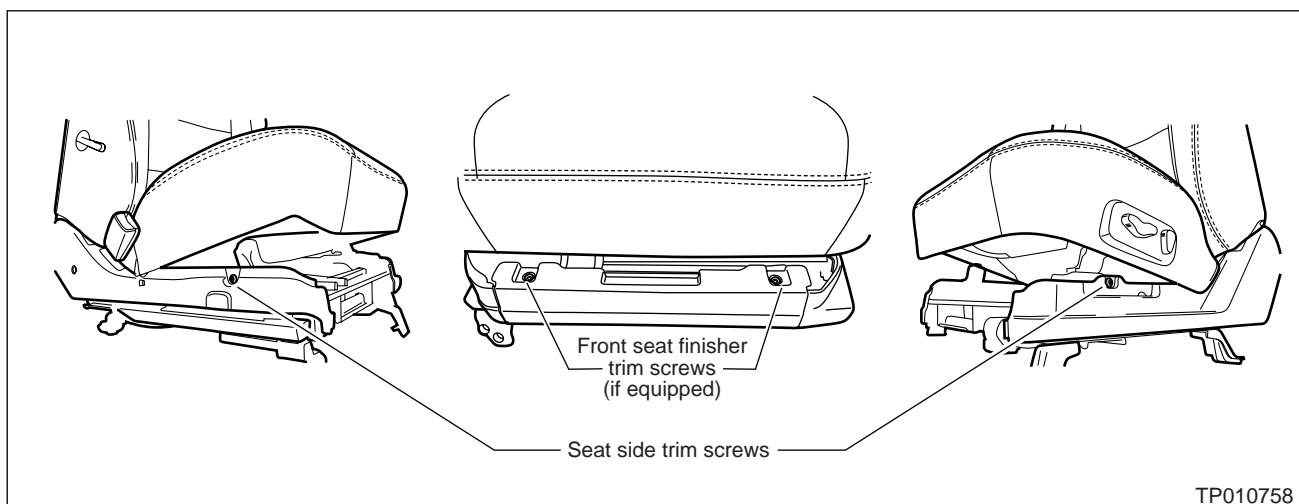

Figure 5
13. Remove the top screw only from the RH & LH side finishers (see figure 5).
14. If equipped, remove both screws and finisher from the front edge of the seat (see figure 5).
26. Re-install screws to attach the side finishers and the front finisher (refer to Figure 5 if needed).